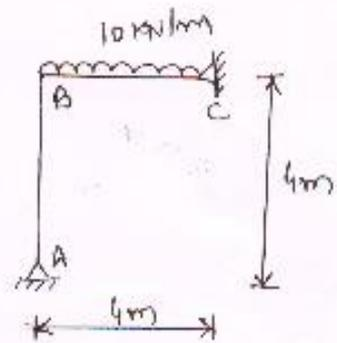

Figure 4
Q.4 Analyse the plane frame shown in Figure 4 using flexibility member method. **14**